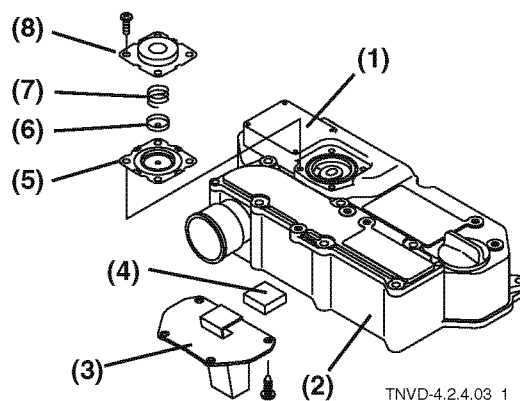

Figure 5-127
1. Remove the rocker arm cover (Figure 5-127, (1)).
2. Check to make sure the small hole in the diaphragm cover (Figure 5-127, (8)) is not plugged with oil or other debris.
Do not disassemble the diaphragm (Figure 5-127, (5)).